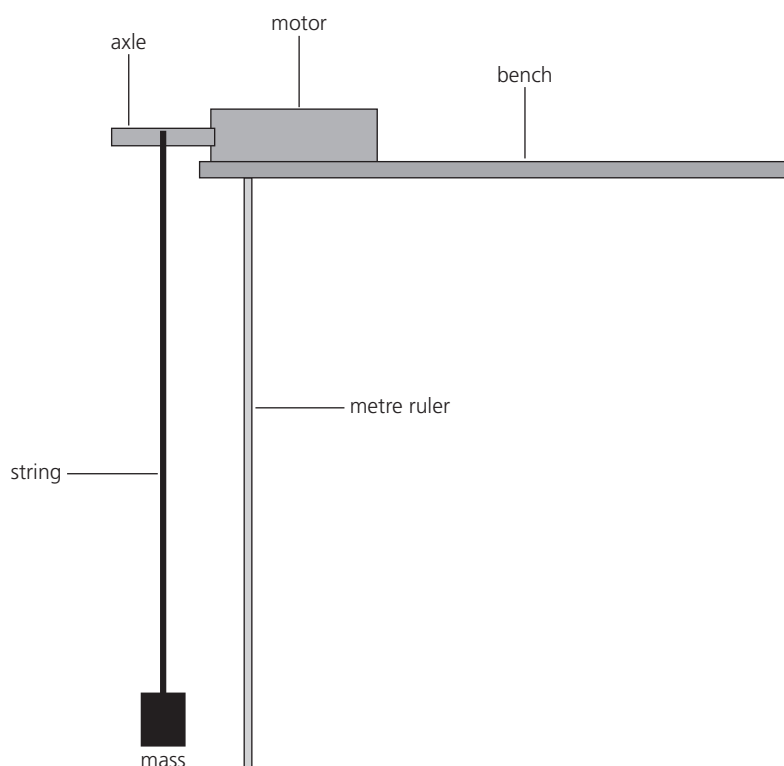

Figure 2
- 3 Attach a 100 g mass to the axle of the motor with a piece of string and allow the mass to hang freely over the edge of the bench (Figure 2). Clamp the motor to the bench.